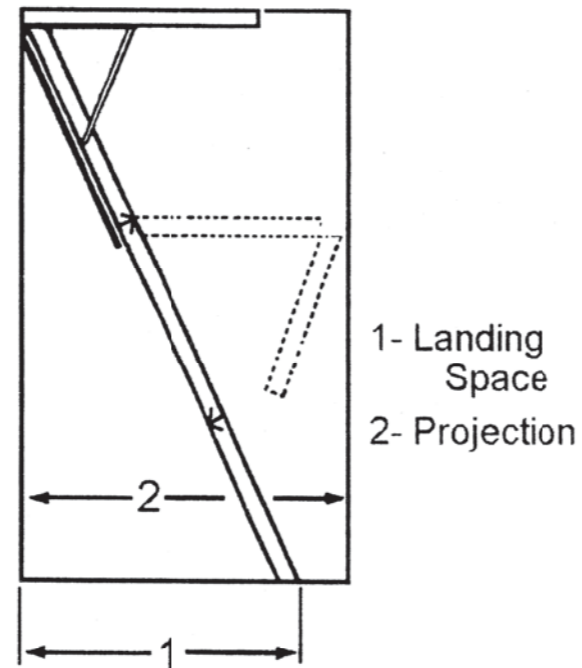

Fig. 1
- Step 2** Position the opening for the stairway. Measure to be sure there is enough clearance for the stair as it swings to its full length (Fig. 1). Use the Specification Chart on the first page to determine the proper clearance for the projection and landing space. Be sure there is enough space for a safe landing area when the stairway is open.